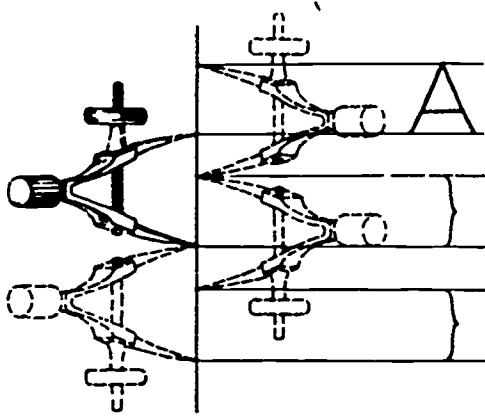

Figure 3-12. Using dividers to space guidelines.
**Height and inclination.** The easiest way to insure that the height and inclination of lettering are uniform is to use guidelines. To keep the height of the letters uniform, you should draw light horizontal lines indicating the top and bottom of capital letters. If your lettering includes both capital and lowercase letters, you add another horizontal line indicating the height of the lowercase letters. Figure 3-12 shows you how to use dividers to obtain uniform spacing of these guidelines. After you have determined the height of the lettering and the space between lines of lettering, you set the divider for a span equal to this height and space. Then, starting at the bottom of the first line of lettering, you step off the number of lines desired, as shown on the left side of the vertical line in the figure. Then, using the same setting, you start at the top of the first line of lettering and step off the same number of times as shown on the right side of the vertical line. By drawing horizontal lines through the points established, you obtain the top and bottom guidelines for the height of capital letters. If you want a guideline for lowercase letters, you measure the desired height for these letters on the first line of lettering, and then use the divider as you did before.